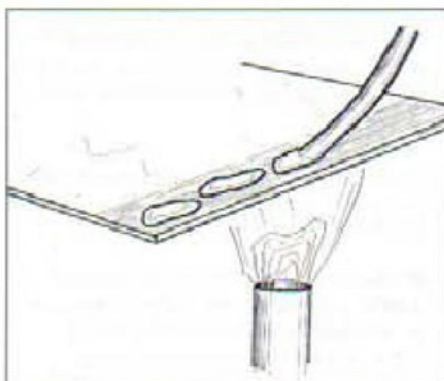

Fig. 2. Heat, and rub with lead-free solder wire. Initial tinning is often patchy.
3. Heat each component and tin by rubbing the solder on to the area to be tinned (Fig. 2).